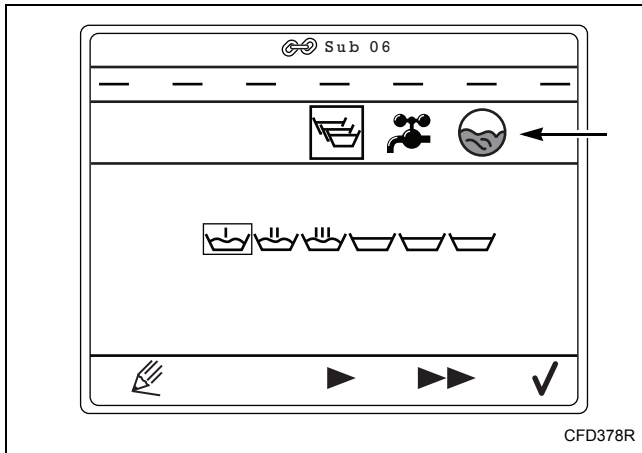

Figure 41
5. Save changes (refer to *Figure 41*).